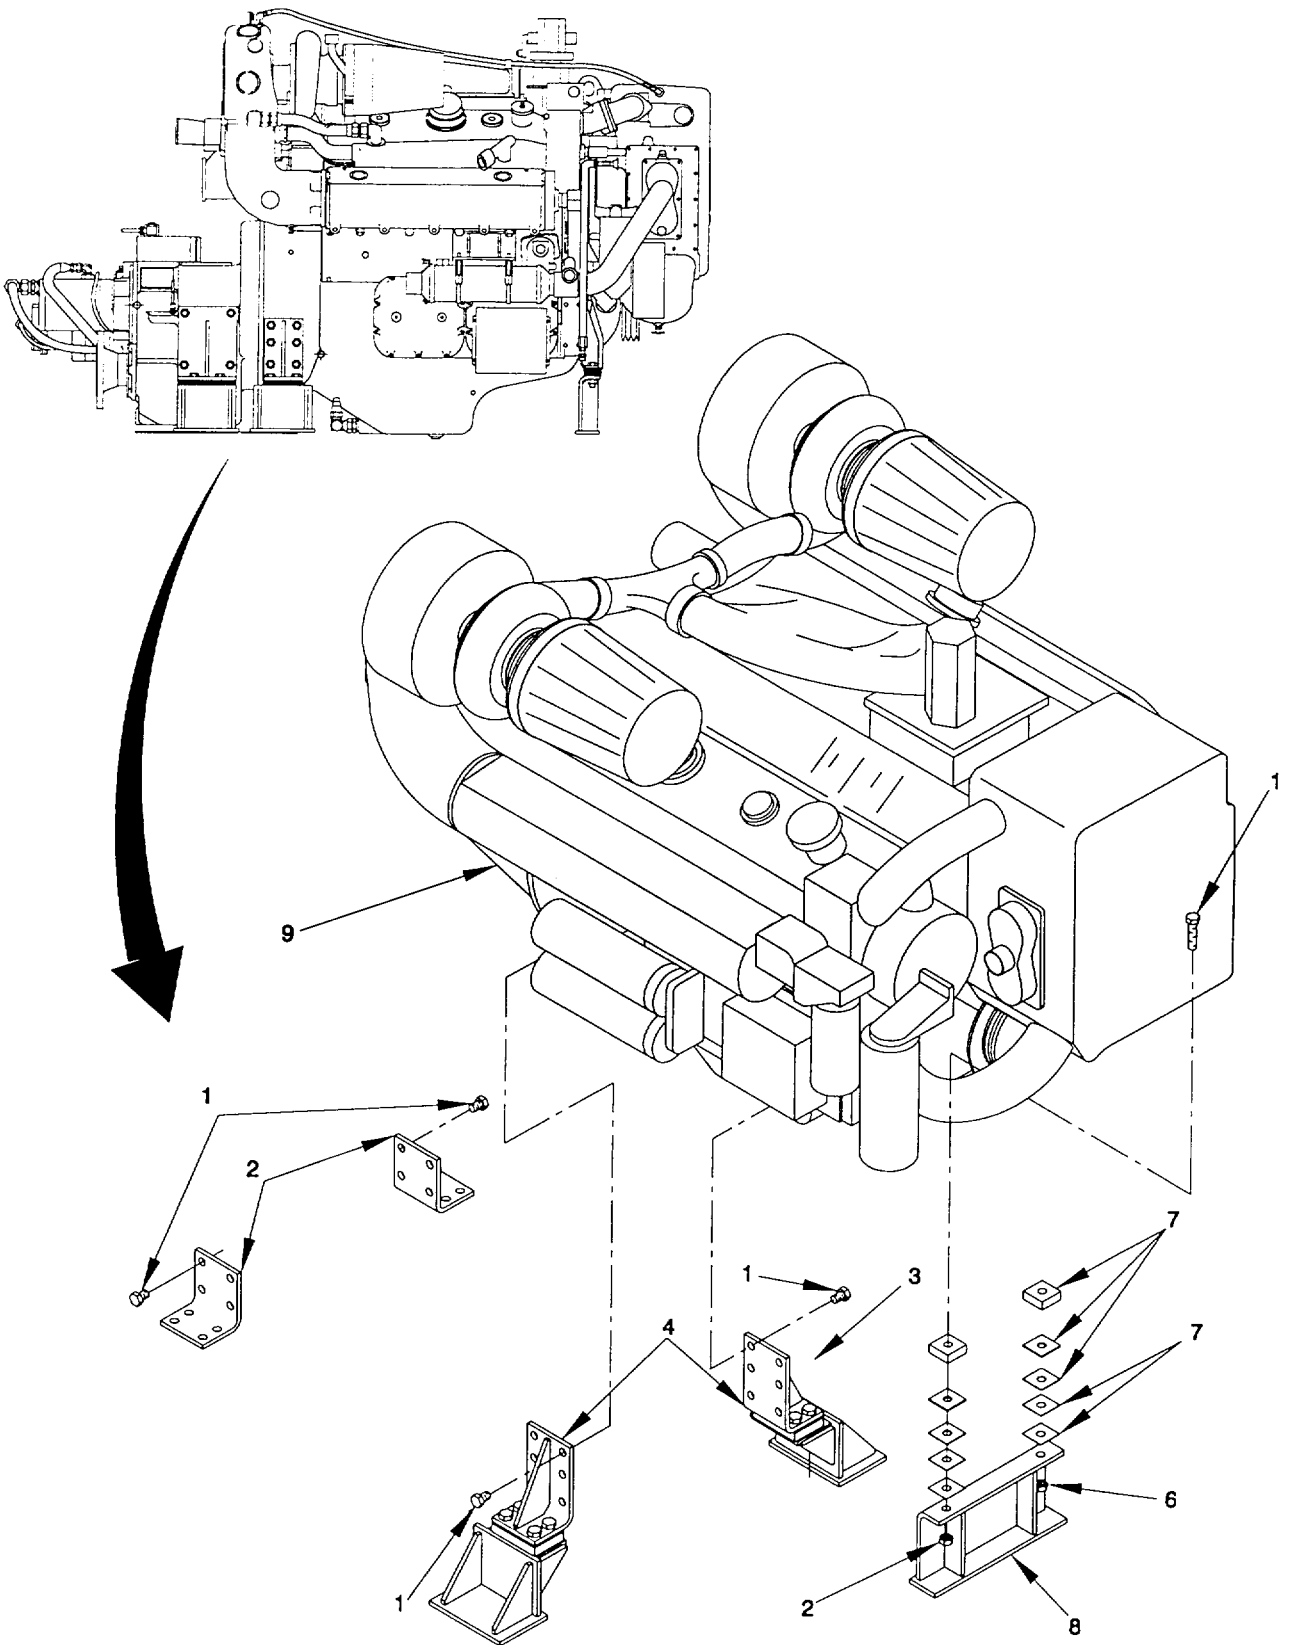

Figure 3-4. Diesel Engine, Remove/Install.
3-11. Diesel Engine (Cont).a. Remove. (figure 3-4)
- (8) Support engine at three lifting points using three point lift beam and sling.
- (9) Remove eight capscrews (1) freeing marine gear from marine gear base brackets (2). Remove eight capscrews (3) freeing engine from flywheel housing brackets (4). Remove two capscrews (5), two hex nuts (6), and collect shims (7) freeing front motor bracket (8) from engine (9).
- (10) Remove the engine (9) with marine gear from the powered module hull using three point lift beam and sling.
- b. Install. (figure 3-4)
- (1) Using appropriate three point lift beam, sling and hoisting equipment, hoist engine and reassemble engine mounts to engine.